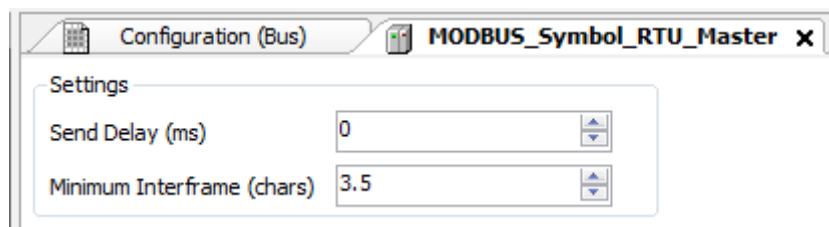

Figure 43: MODBUS RTU Master Configuration Screen
- Configure the general parameters of the MODBUS Master protocol, like: transmission delay times and minimum inter-frame as in Figure 43.